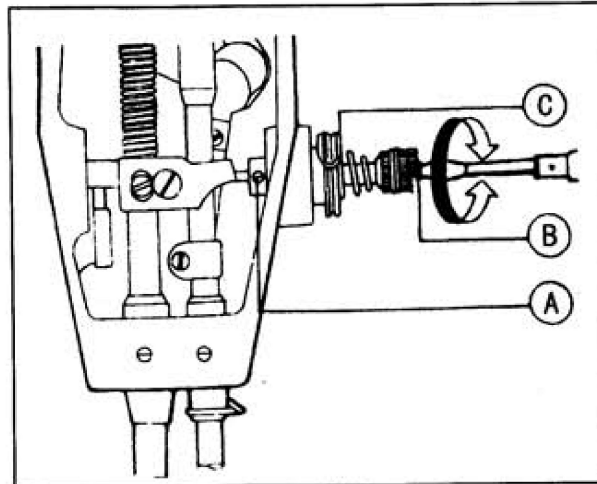

Fig. 13
14. ADJUST THREAD TAKE-UP SPRING (Fig.13,14)